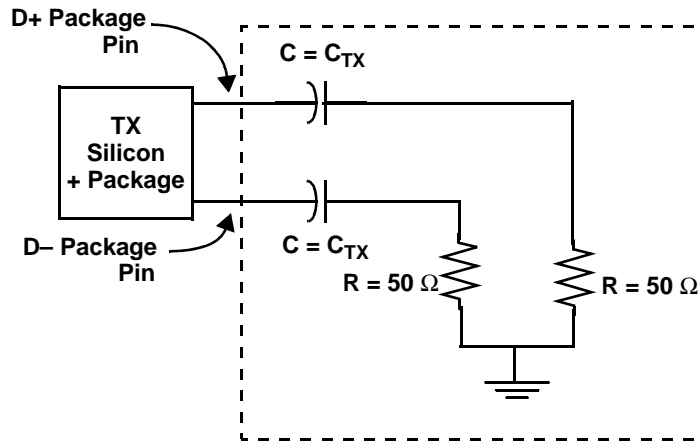

**Figure 18. Single Frequency Sinusoidal Jitter Limits**
2. Total jitter is composed of three components, deterministic jitter, random jitter, and single frequency sinusoidal jitter. The sinusoidal jitter may have any amplitude and frequency in the unshaded region of Figure 18. The sinusoidal jitter component is included to ensure margin for low frequency jitter, wander, noise, crosstalk, and other variable system effects.
Notes: 1. See <a href="#">Figure 18</a> for single frequency sinusoidal jitter limits 2. Each UI is 800 ps $\pm$ 100 ppm.
Notes: 1. Measured at receiver. 2. Refer to RapidIO™ 1x/4x LP Serial Physical Layer Specification for interpretation of jitter specifications. Also see <a href="#">Figure 18</a> . 3. Each UI is 800 ps $\pm$ 100 ppm.